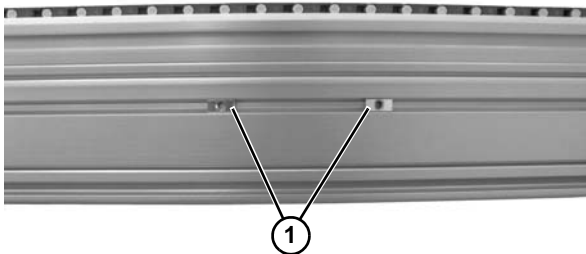

Figure 14
4. Install T-bars (Figure 14, item 1) in 2200 Series, 3200 Series, or 5200 Series conveyor T-slots.